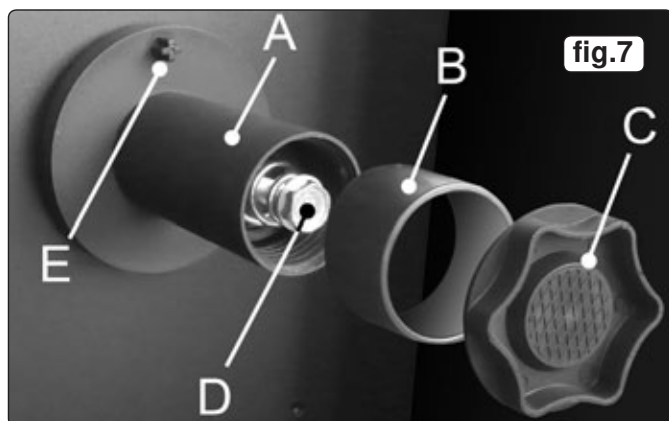

fig.7
- 3.11.3 Tighten the clutch nut located in the centre of the wire spool holder with a spanner (fig.7-D) and test the machine as above until the wire stops over running.